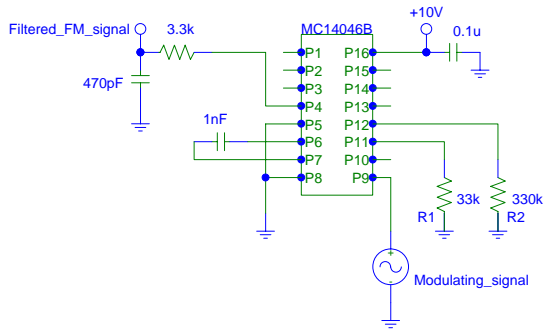

Fig. 1 Test circuit for the generation of an FM signal.
1. Assemble the circuit of Fig. 1. The  $0.1 \mu\text{F}$  capacitor is for decoupling of the power supply and should be connected from pin 16 to pin 8 right on top of the integrated circuit.